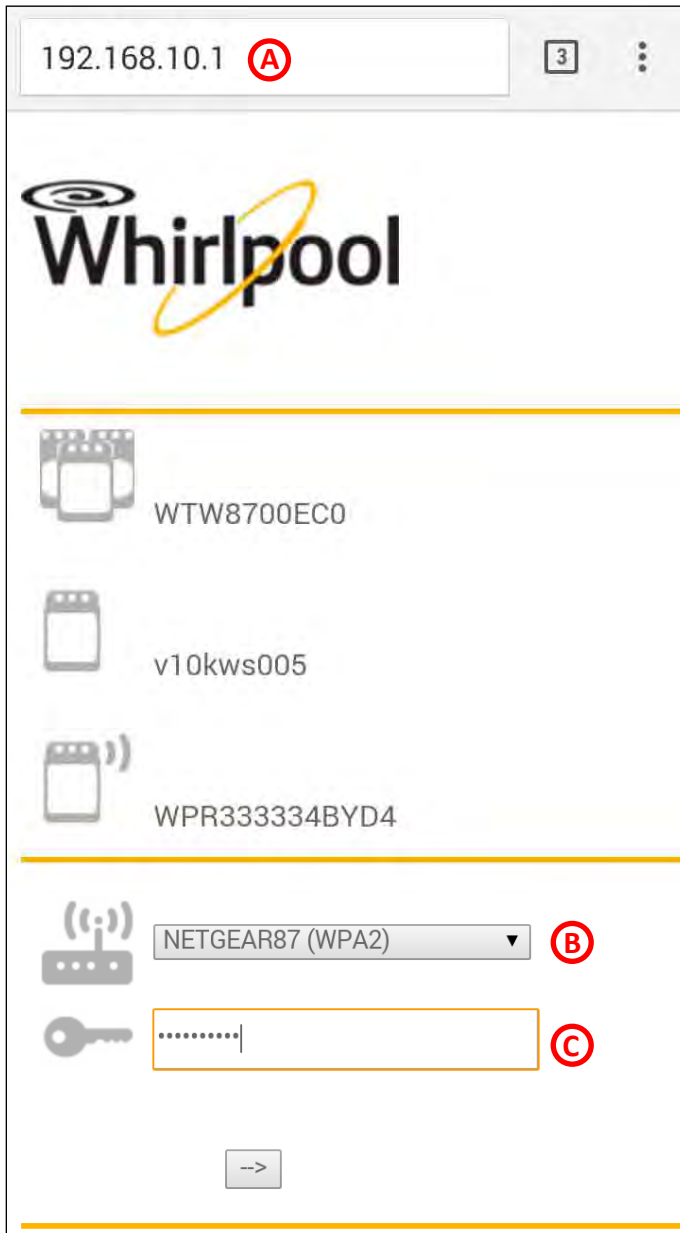

Figure 15 - WiFi Web Page
6. Open a Web browser. Refer to Figure 15 when performing the following 4 steps.